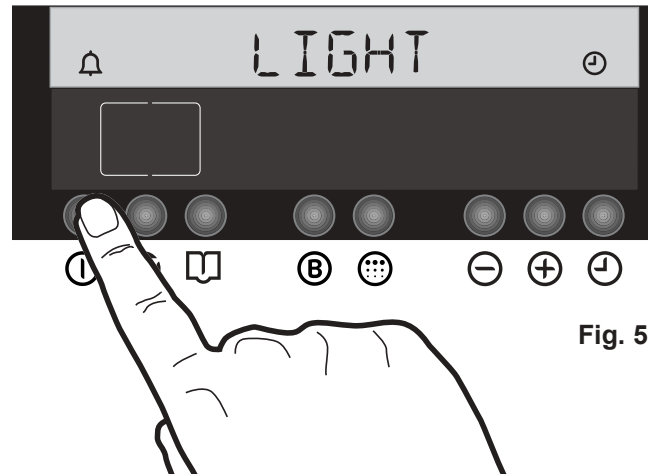

Fig. 5
The oven must be switched on before setting any cooking function or programme. When button ① is pressed, the oven light will switch on. The oven symbol and the message "LIGHT" appear on the display (Fig. 5).